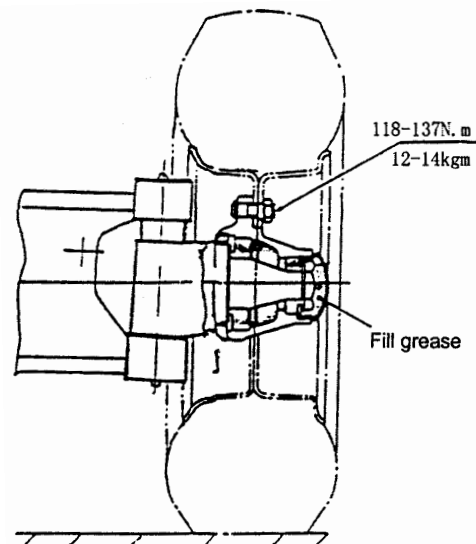

Fig5.7 Pre-load adjustment
(4) Rear wheel bearing pre-load adjustment
- a. As shown in Fig5.7, fill up the chamber formed by wheel hubs, wheel hub bearing and wheel hub covers with lubricating grease. Coat the lips of the oil seals with lubricating grease.